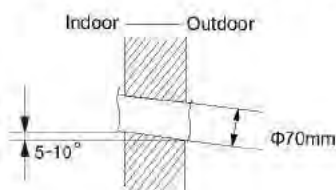

Fig.2
(2) Open a piping hole with the diameter of  $\Phi 70\text{mm}$  on the selected outlet pipe position. In order to drain smoothly, slant the piping hole on the wall slightly downward to the outdoor side with the gradient of  $5\text{-}10^\circ$ . (As show in Fig.2)